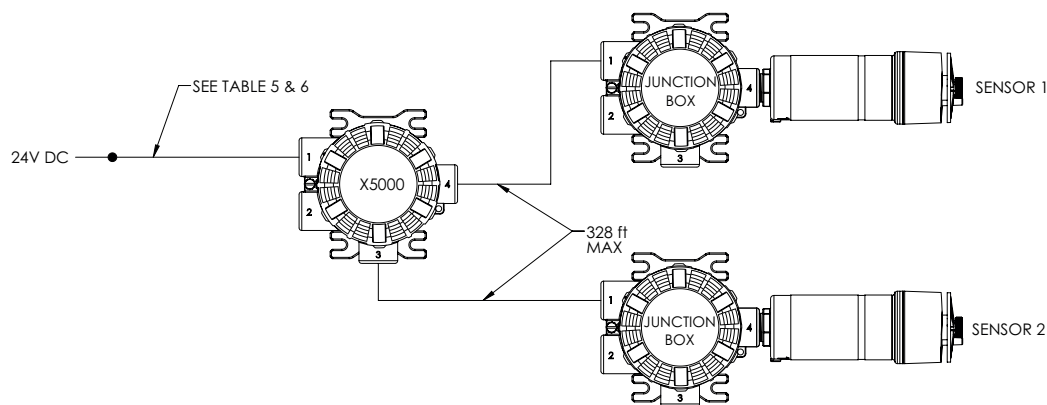

Figure 29 Two Remoted Sensors
Incoming power and signal cables should be a braided shield cable such as Alpha Wire 3248 or equivalent. The braided shield must be terminated to the instrument housing with a 360 degree connection to earth ground as shown in Figure 29 or alternatively, the earth ground at the user's power source location. An external Class 2 power supply is required to supply 11-30 VDC to the ULTIMA X5000. Incoming power and signal cables should be a braided shield cable such as Alpha Wire 3248 or equivalent
6. Connect the power and analog output wires. Wire locations are marked on the cover plate (see Figure 30 Figure 29 ):